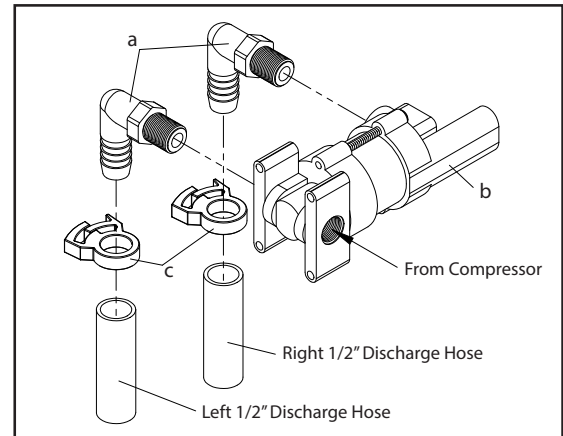

Figure 5: Discharge Hose Mounting
1. One 30' length of 1/2" discharge hose is included and may be cut as needed. Begin by attaching the 1/2" discharge hose to the hose barbs (a) on the solenoid valve (b) on the foam marker. It is important that you know which hose barb is for the left and for the right side. Clamp the hose onto the hose barbs with the included nylon hose clamps (c) (Figure 5).